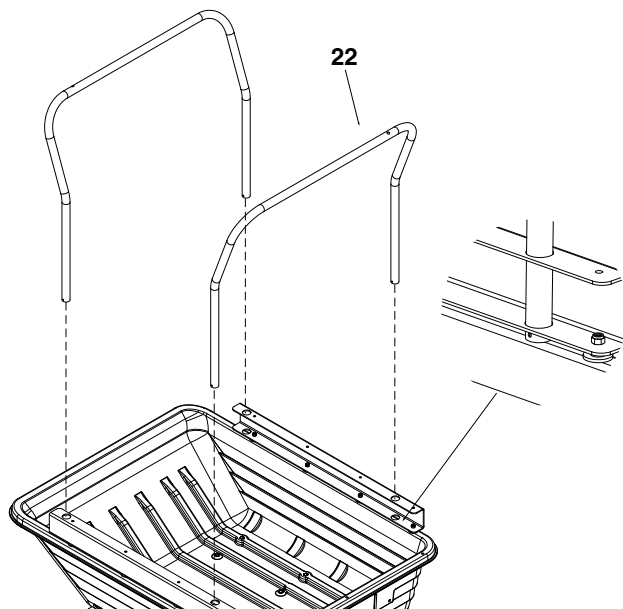

FIGURE 12
- Insert support tubes (22) into both upper and lower holes in the side rails. Make sure the support tubes are positioned as shown below. See Figure 12.